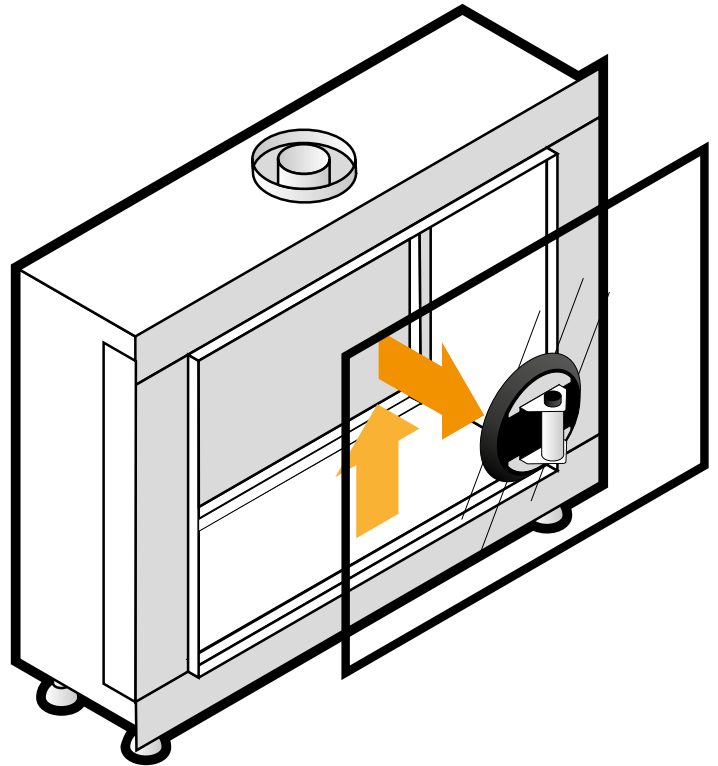

Figure 10-6: Remove Glass
- Lift the glass for a little bit and tilt it out through the opening (See figure 10-6).